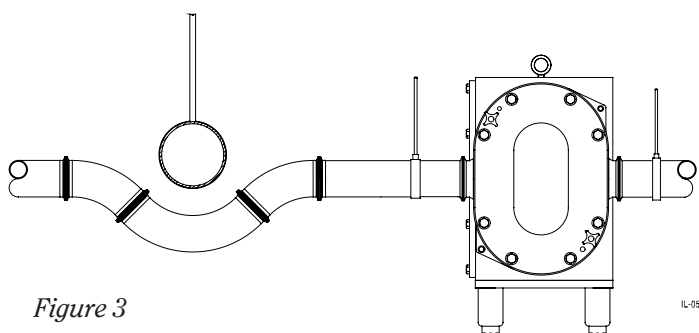

Figure 3
- Avoid sump areas where sediment may collect (*Figure 3*).